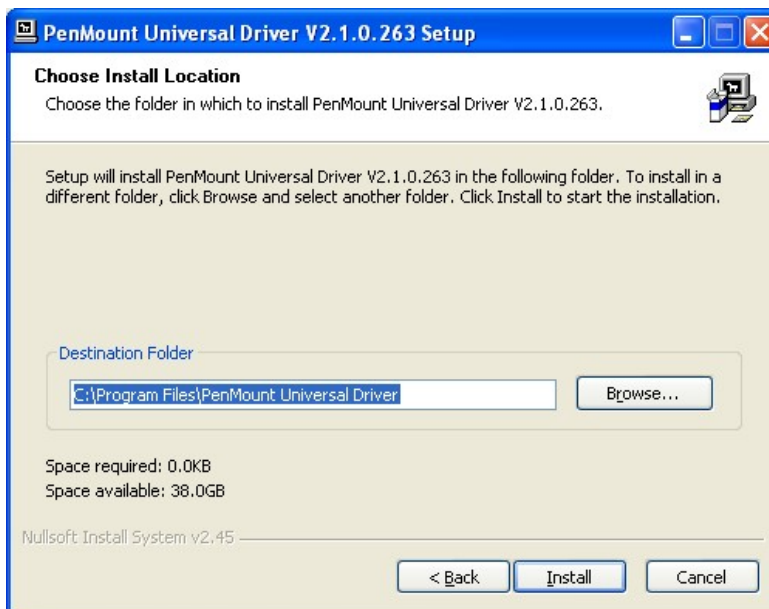

Figure 5-24: Touch Screen Driver Choose Install Location
Step 8: Browse for an install location or use the one suggested (Figure 5-24).